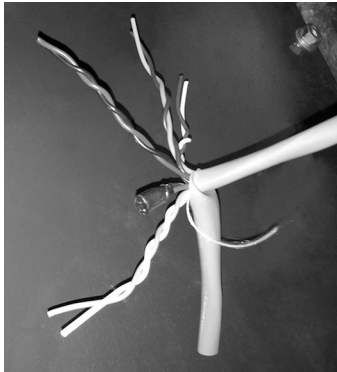

FIG. 64
2. Cut back and tape any wires that will not be used in the lubrication system (FIG. 64).